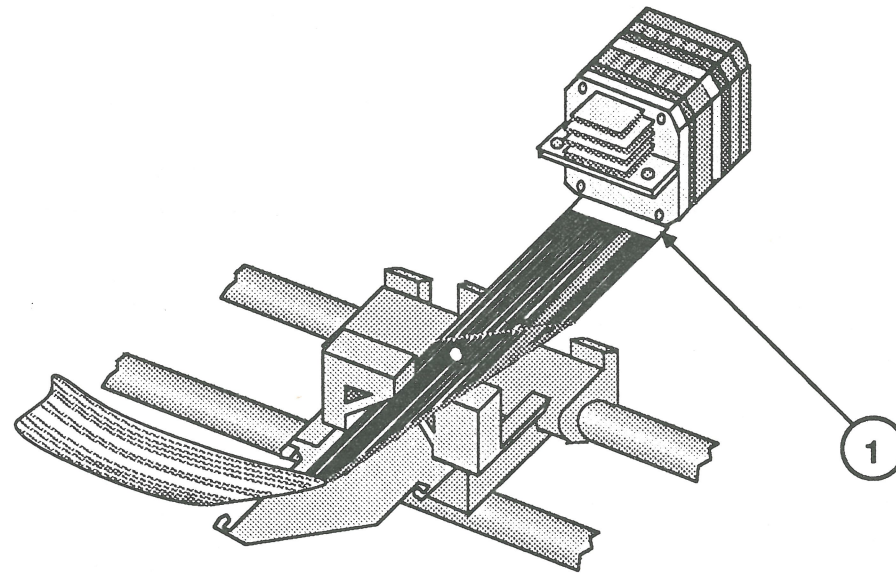

FIGURE 15
6. Place the small, flatblade screwdriver in the slot of the print head connector (Figure 15). Gently rotate the screwdriver in either direction until the sliding portion of the connector moves away from the rest of the connector. Slide the cable from the connector.